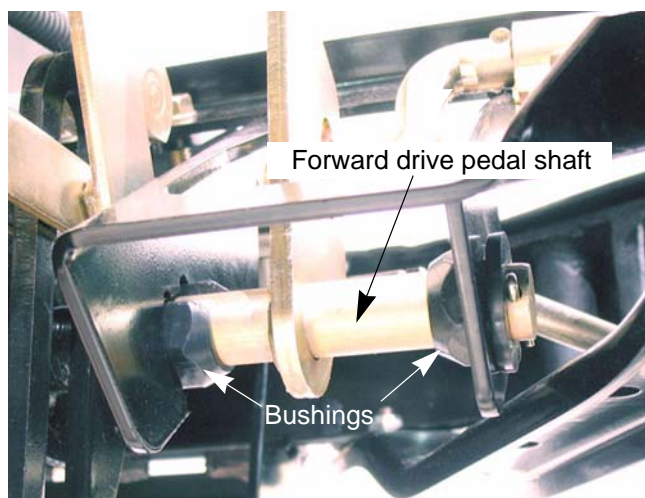

Figure 5.23
2. Inspect the bushings that support the forward drive pedal shaft. See Figure 5.23.